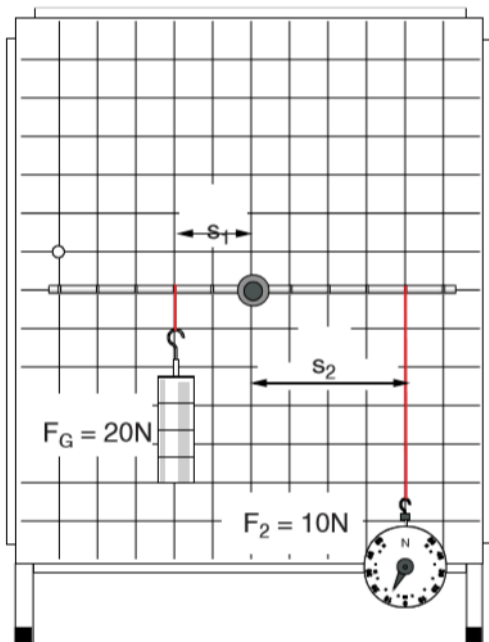

Figure 9: Simple levers
- 1) Setup the experimental board as shown in Figure 9